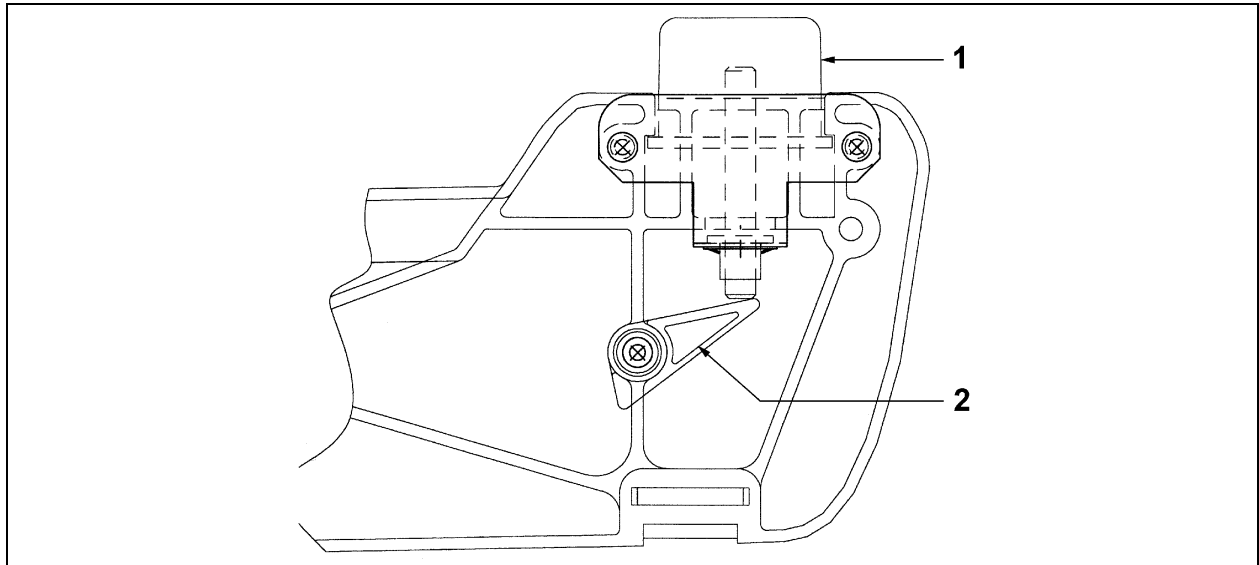

Figure 9: Existing mechanism to remove. **(1)** Operating knob to be removed; **(2)** Triangular lever that activated the cylinder.
- Remove the operating knob and its metal plates (figure 9, item 1);
- Remove screw, spring and triangular lever that activated the cylinder (figure 9, item 2);